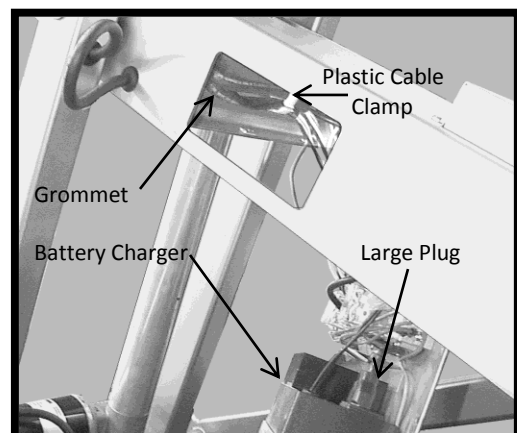

Figure 22: Power Cord Plug & Fastenings
8. Pull the power cord out of the plastic cable clamp (Figure 22).
4. Place the power cord into the plastic cable clamp (Figure 22) and replace any cable ties removed above.